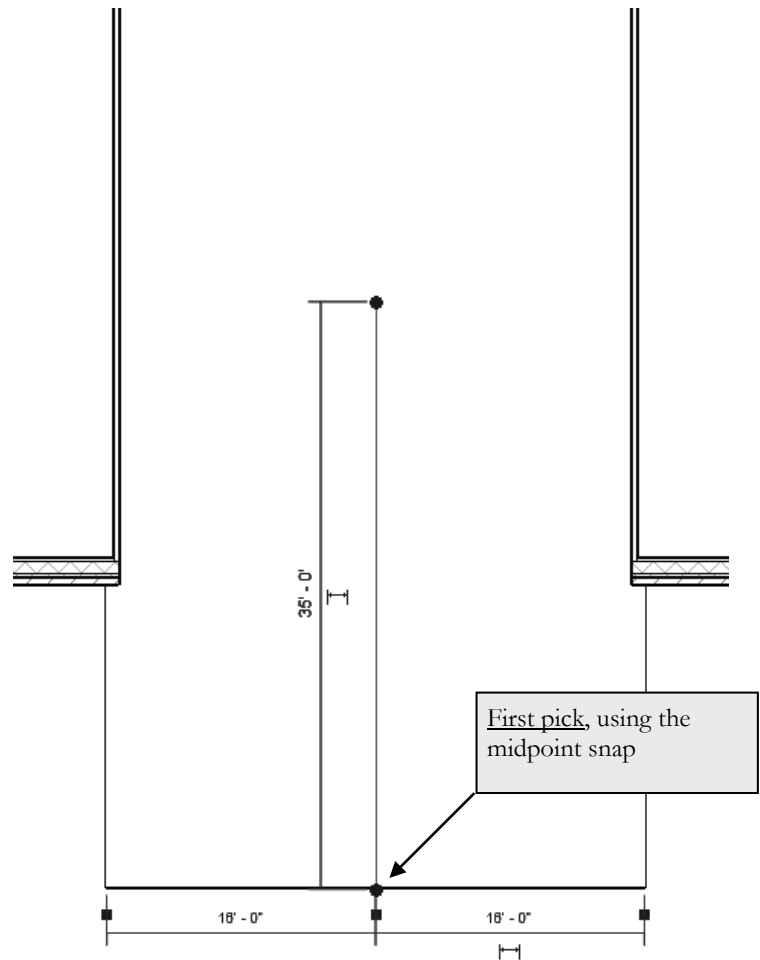

FIGURE 3-3.3
10. Draw the "vertical" line, **35'-0"** long, as shown in Figure 3-3.3; be sure to snap to the *Midpoint* of the atrium wall as your first point.